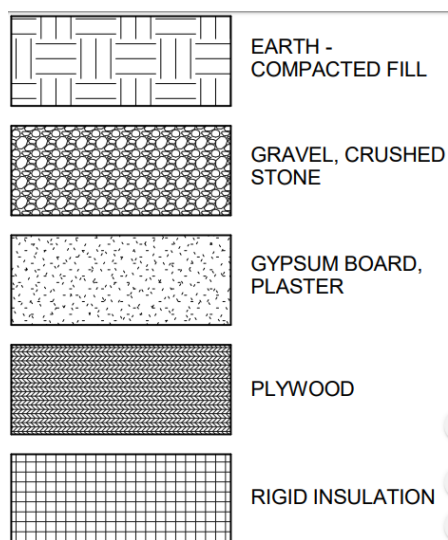

Figure 1.12 Architectural symbols
1.1.11 Architectural Symbols See Figure 1.12